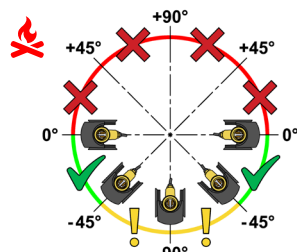

Fig.6
- **Models with nominal flow rate up to 2,5 m³/h:** the flow sensor can be oriented with inclinations between 0° and -90°. In particular, orientation with an angle between -45° and -90° is permitted if the absence of impurities and dirt inside the heat transfer fluid has been verified (Fig.6);